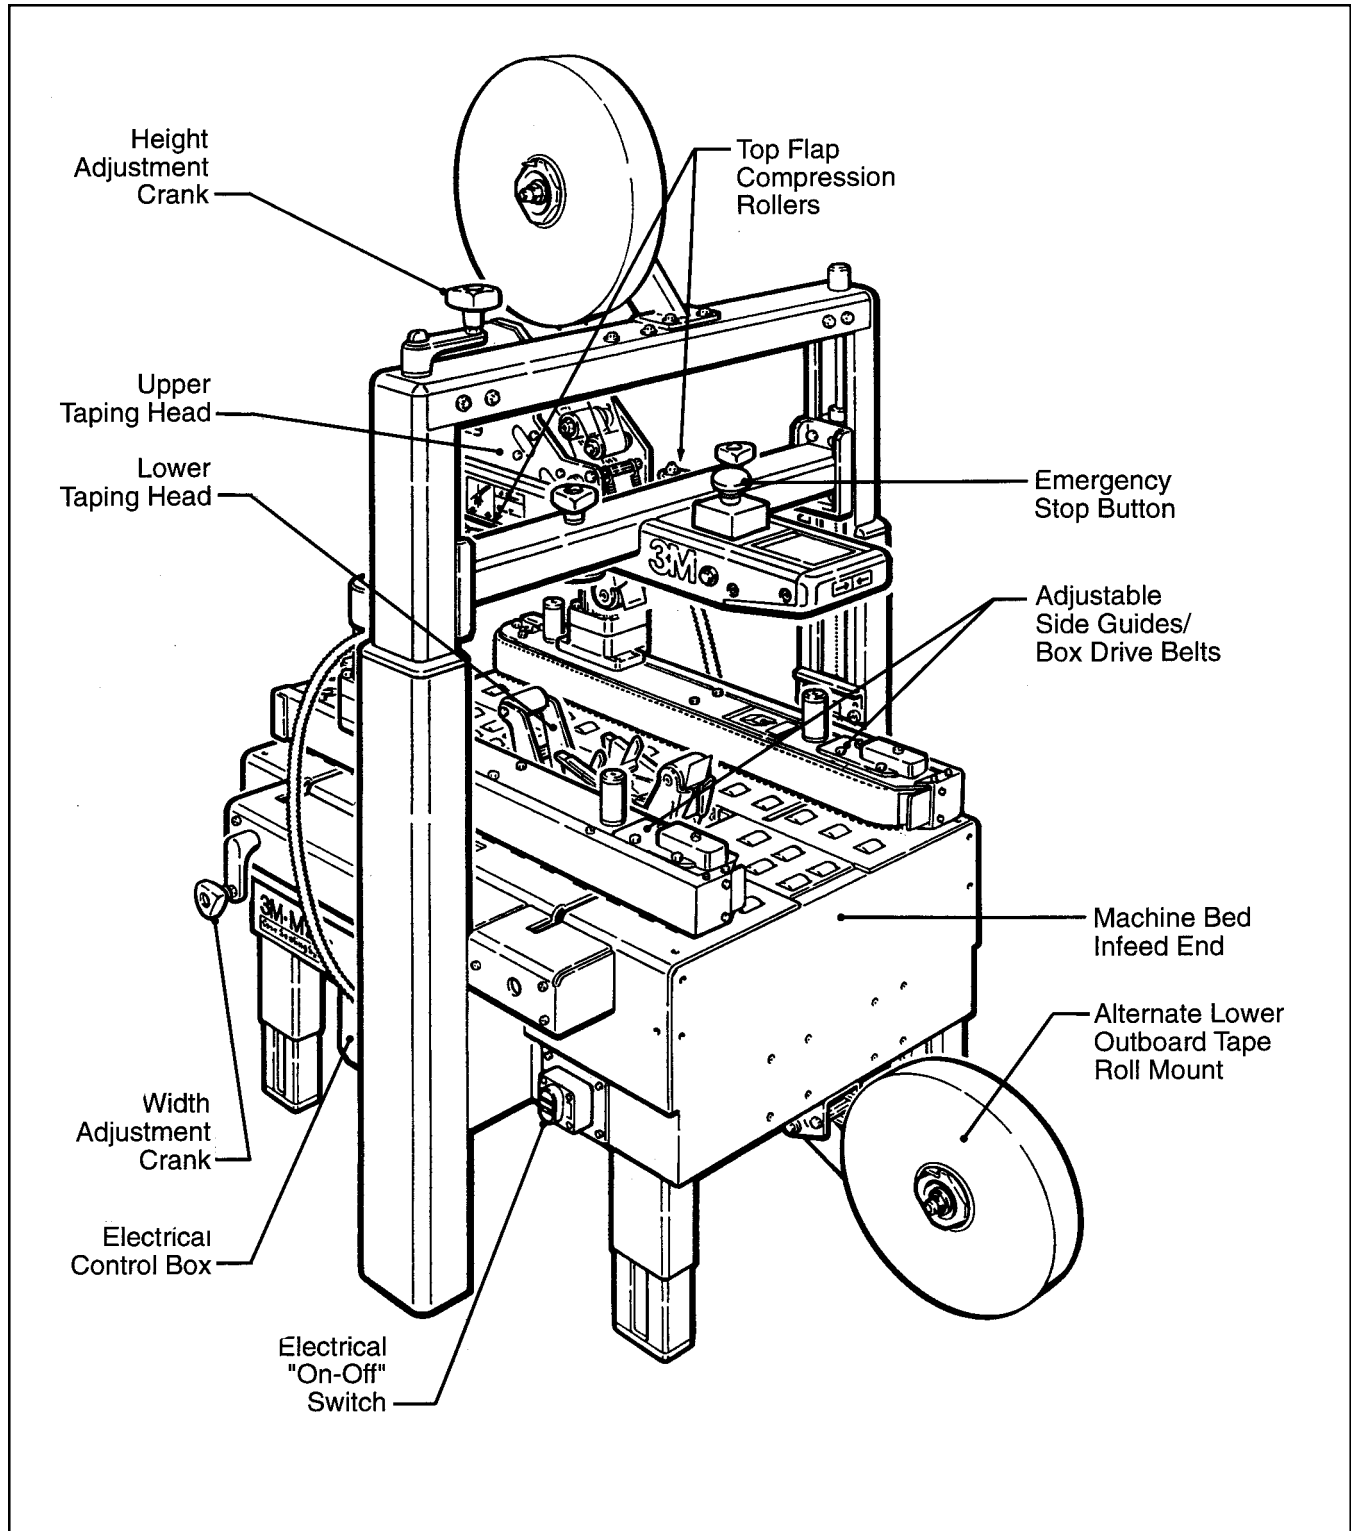

Figure 3-1 – Case Sealer Components, Left Front View
The following instructions are presented in **the order recommended** for setting up and installing the case sealer. Following them step by step will result in an installation in your production line that best utilizes the many features built into the case sealer. Refer to Figure 3-1 to identify the various components of the machine.
The electrical control box, shown in Figure 3-1, contains the "On/Off" switch with pre-set circuit breaker and can be located on either side of the machine frame for customer operating convenience. A standard three conductor power cord with plug is provided at the back of the electrical control box for 115 Volt, 60 Hz, 3.8 Amp electrical service. The receptacle providing this service shall be properly grounded. Before the power cord is plugged into 115 Volt, 60 Hz outlet, make sure that all packaging materials and tools are removed from the machine. **Do not plug electrical cord into outlet until ready to run machine.**
Refer to Figure 3-1 to acquaint yourself with the various components of the case sealer and also see Section II, page 6, for taping head components.
7. Taping heads utilize an extremely sharp cut-off knife. The knife is located under the orange knife guard that has the "WARNING – SHARP KNIFE" label. Before loading tape, refer to Section II, page 6, Figures 3-1 and 3-2 to identify the knife location. Keep hands out of these areas except as necessary to service the taping heads.